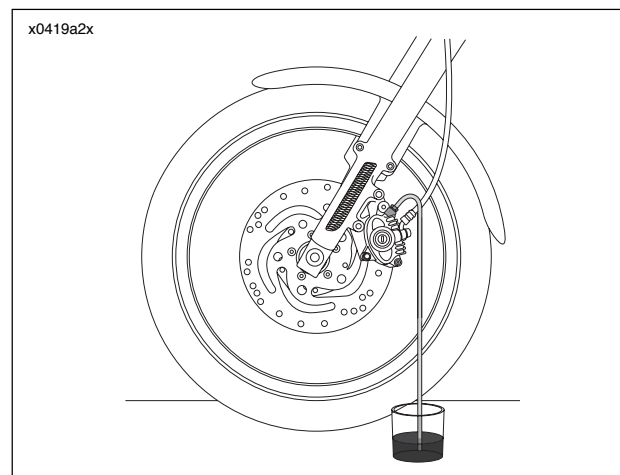

Figure 1-25. Bleeding Hydraulic System
5. See Figure 1-25. Install end of a length of 5/16 in. (7.9 mm) I.D. clear plastic tubing over caliper bleeder valve. Place free end of tube in a clean container.